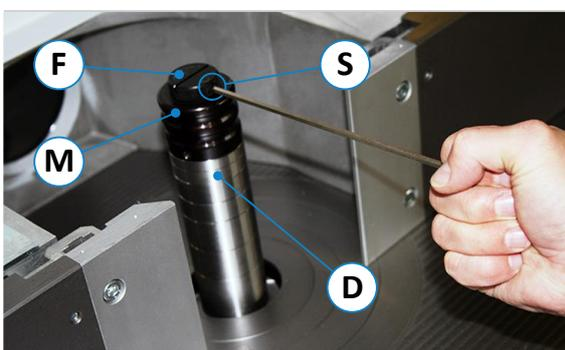

Figure 18: Milling arbor with quick clamping device
- Turn the milling spindle by hand so that the clamping screw (S) is accessible (see ⇨ Figure 18).
- Press the emergency stop button (4) and leave it locked.